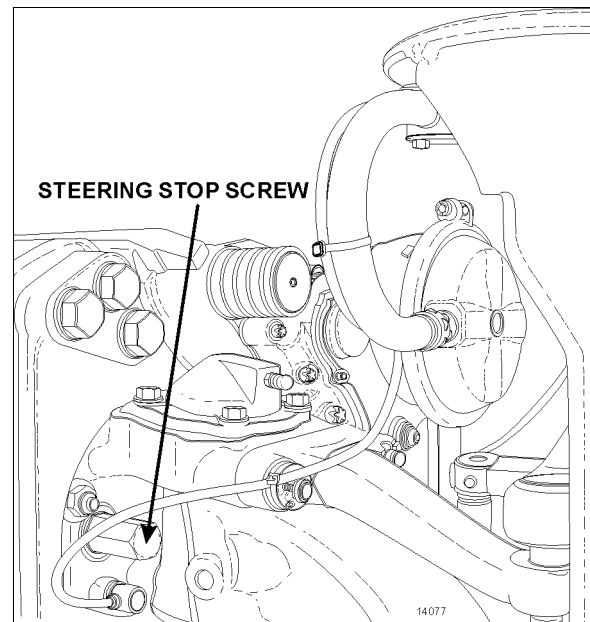

**FIGURE 14: PROPER CLOCKSPRING POSITION**
5. Break the paper seal and rotate the center part of the clockspring about 50° clockwise (Figure 14). This step is necessary for the installation of the steering wheel.